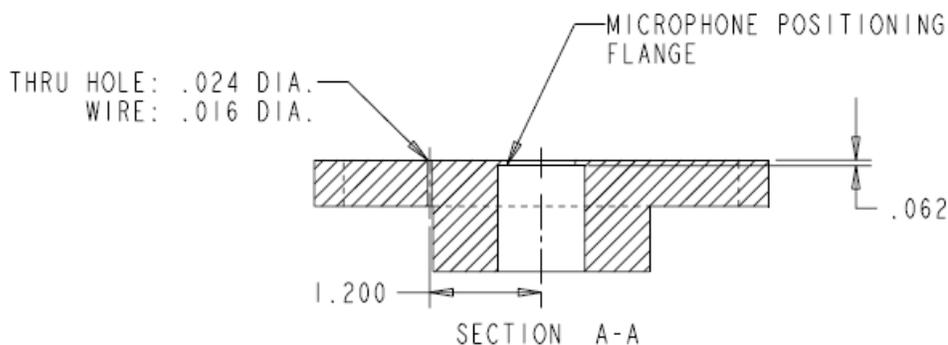

FIGURE 5. Flat Plate Coupler
Earphone testing for the Airman 750 and 760 is done on a flat plate coupler. For more information, see Figure 5.
3. Place the **calibrated lab microphone** under the flat plate coupler and up through the hole, flush to the microphone positioning flange. (Use wire?) See Figure 5.